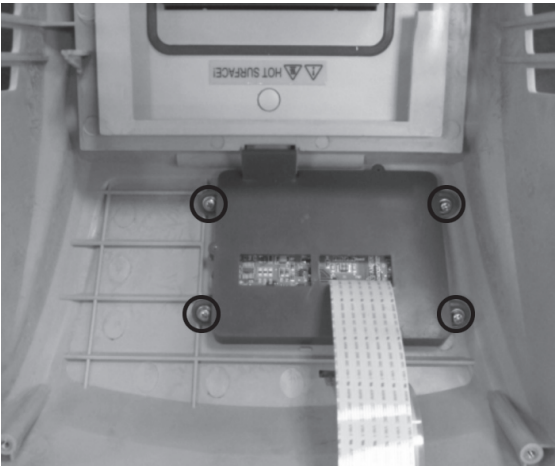
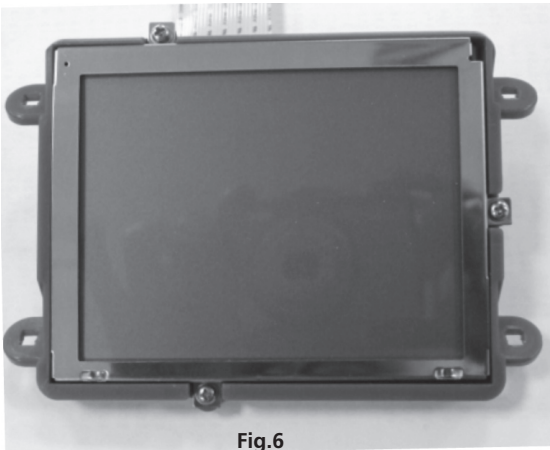

Fig.5
Fig.6
2.2.1 Remove the front cover and see the LCD control board as Fig.5
2.2.2 Remove the screws as Fig.5, and get the LCD and LCD control board which are combined into one part. As Fig.6